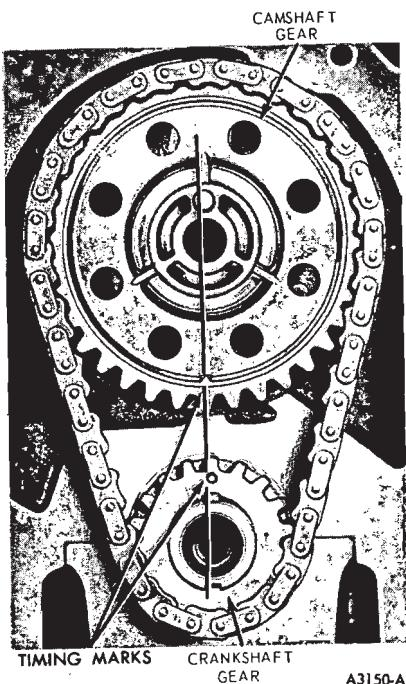

FIG. 23—Aligning Timing Marks
12. Crank the engine until the timing marks on the sprockets are positioned as shown in Fig. 23.
1. Position the sprockets and timing chain on the camshaft and crankshaft (Fig. 24). Be sure the timing marks on the sprockets are positioned as shown in Fig. 23.
3. Position the sprockets and timing chain on the camshaft and crankshaft (Fig. 24) with the timing marks on the sprockets aligned as shown in Fig. 23.